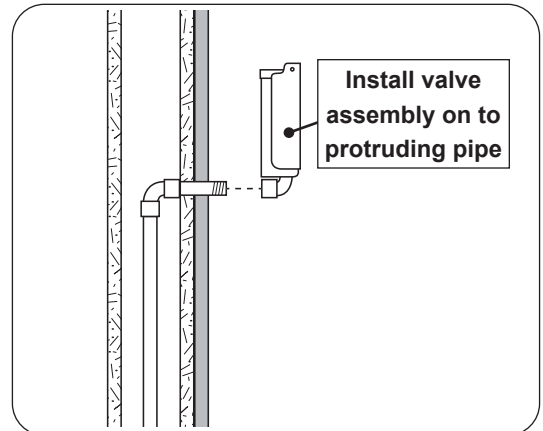

Fig. 2-2 Install valve assembly
2. Attach the valve assembly elbow to the gas pipe. Rotate the entire assembly clockwise until it is fully secured to the gas pipe. See Fig. 2-2. Use a pipe joint compound resistant to all gasses on the male pipe.